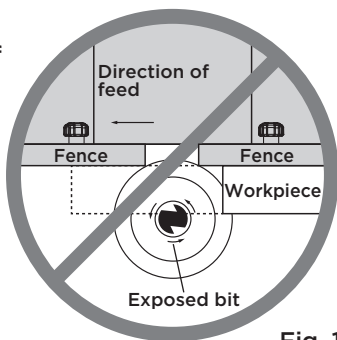

Fig. 1
- The front of the bit is exposed during the cutting operation (Fig. 1).
- The bit can "Climb-cut," where the bit enters the workpiece in the same direction as the feed direction. This is likely to cause the workpiece to "climb" away from the tabletop and may lead to loss of control during operation (Fig. 1).